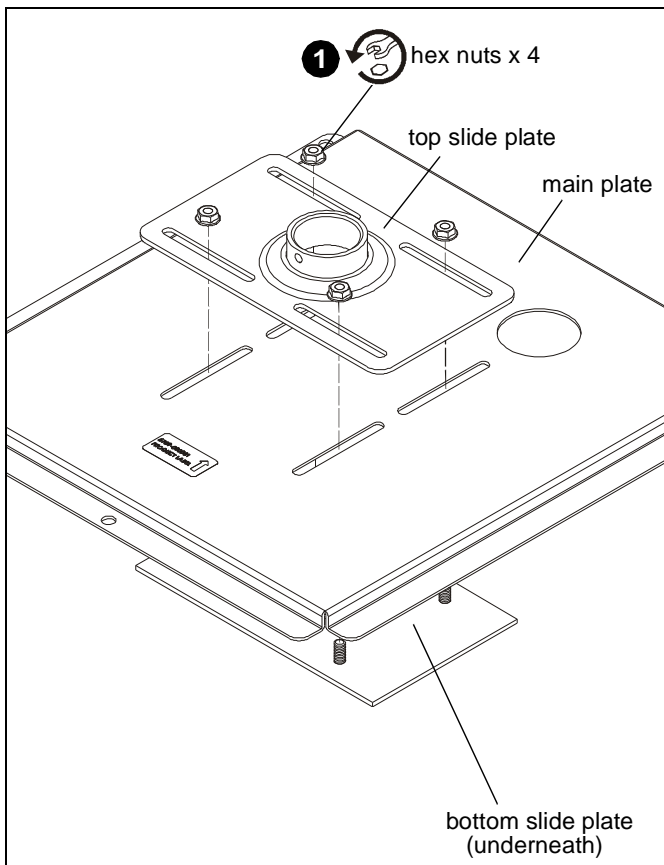

Figure 1
1. Unscrew four hex nuts on pipe adapter assembly (A). (See Figure 1)
2. Remove top and bottom slide assembly plates from main plate. (See Figure 1)